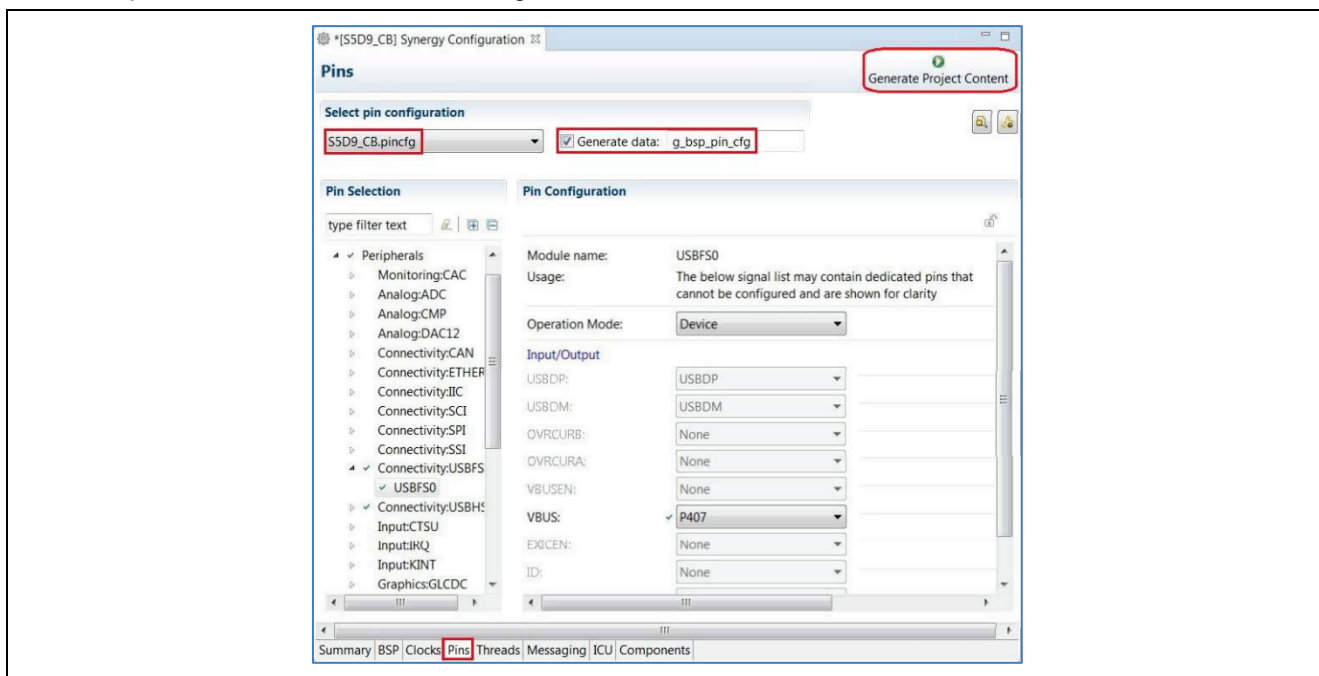

Figure 13. Set the Connection Between Pins and Peripherals on Your Board
9. Based on your board I/O schematics, create a new **g_bsp_pin_cfg** structure by deselecting the unused peripherals/ports, and select the required components on the custom board in the Synergy Configuration, **Pins** panel. For example, the custom board S5D9_CB has a high-speed USB host and a full-speed USB device as shown in Figure 13.